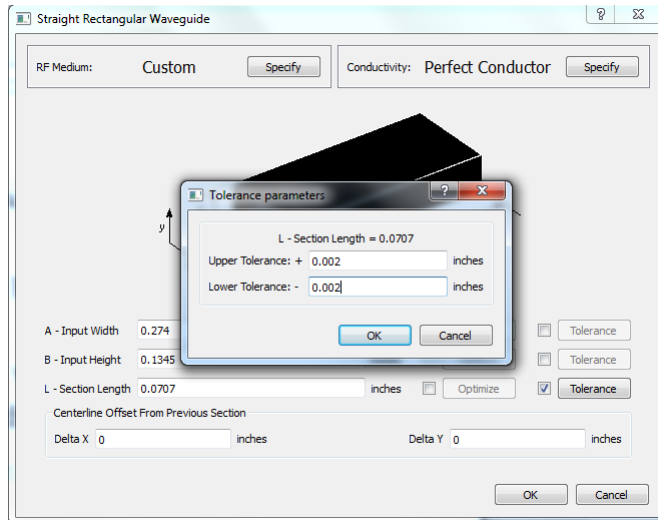

FIGURE 34. Ceramic thickness tolerances for block window example
4. As shown in Figure 34, enter.002 for both the positive and negative tolerance ranges.